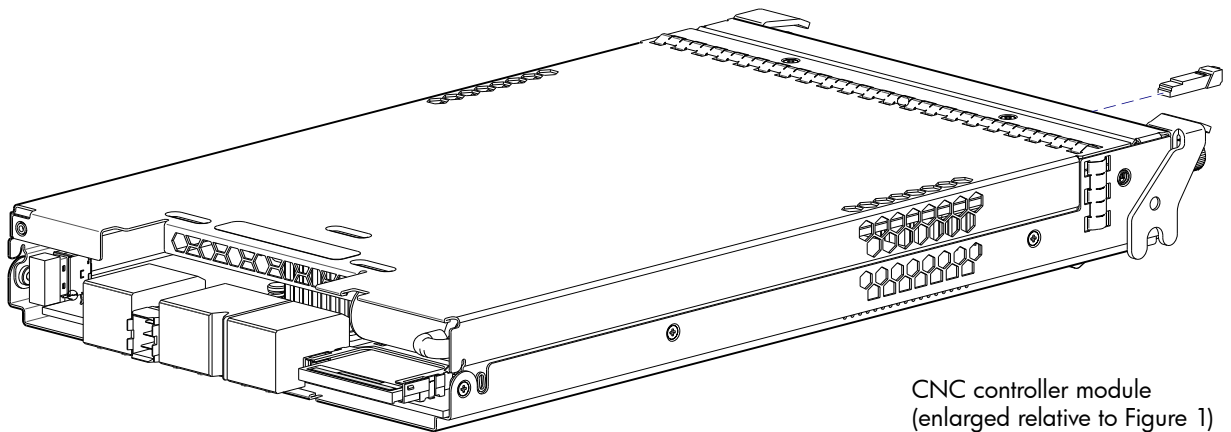

Figure 2 6004 Series CNC controller module with SFP transceiver
- Controller module pictorial — Figure 2